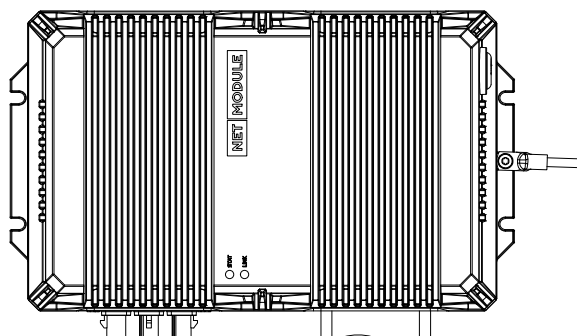

figure10
- 6.4 Turn the bracket counter-clockwise to push the Molex cable into the connector (figure10)